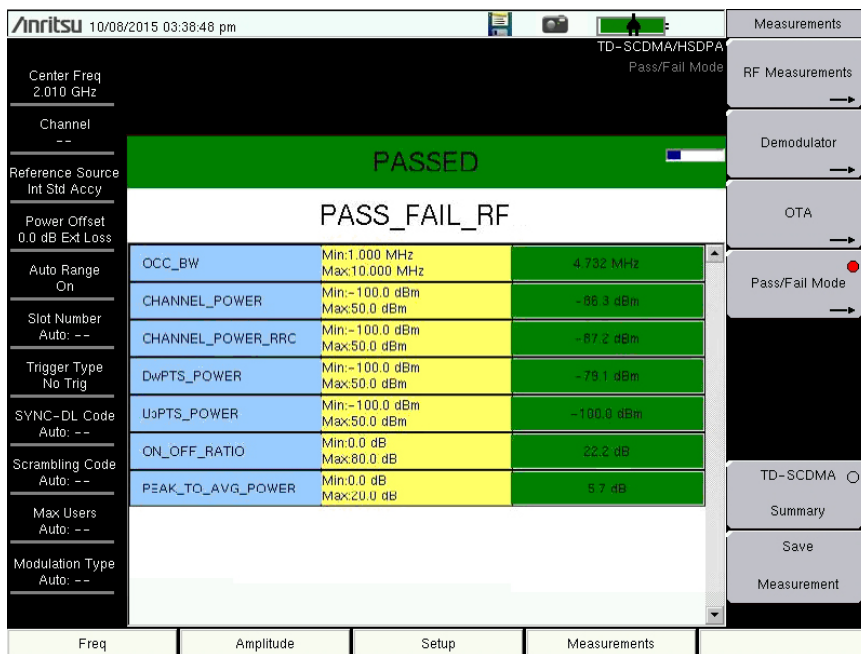

Figure 4-7. TD-SCDMA/HSPA+ Pass/Fail Measurements
5. Press the Reset submenu key to begin a new pass/fail test measurement (see Figure 4-7).